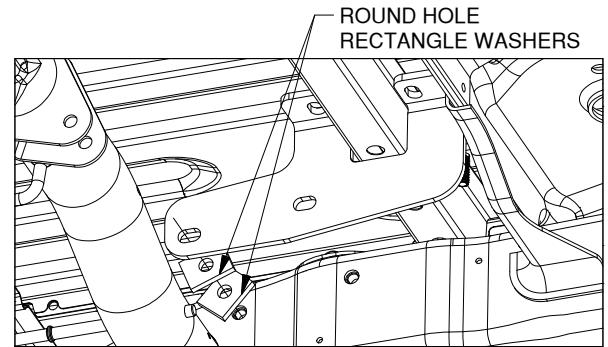
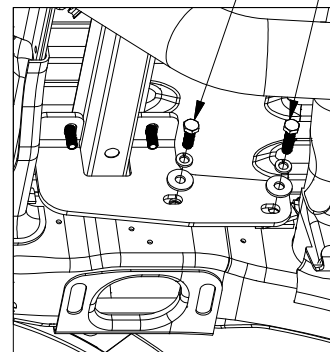

Figure B2: View looking up at passenger side frame.
Figure B3: View looking up at driver side frame.
3. **Install the front brackets.** Locate the two front brackets, four round hole rectangle washers, two M12 x 45mm hex head bolts (longer), two M12 x 35mm hex head bolts (shorter), four 1/2" split lock washers, and four 1/2" flat washers. Due to curvature of the frame the forward hole in each front bracket will need to be supported with two round hole rectangle washers. See Figure B2. Using a 1/2" lock washer and 1/2" flat washer, thread the longer (45mm) M12 hex head bolt into the frame through the forward holes in the brackets and through both round hole rectangle washers. Again, using a 1/2" lock washer and 1/2" flat washer, thread the shorter (35mm) M12 hex head bolt into the frame through the remaining holes. See Figures B3 and B4. Do not fully tighten at this time.